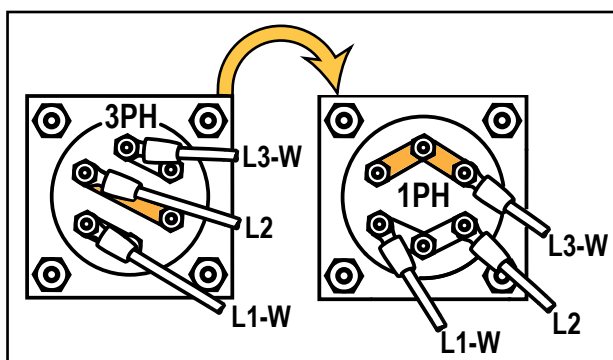

Fig. 21 - Rewire the wash tank heater.
- Step 4:** Remove the 3PH L2 jumper strap, (Fig. 21).
- Step 5:** Rewire the wash tank heater for 1PH using two short jumper straps, (Fig. 21).